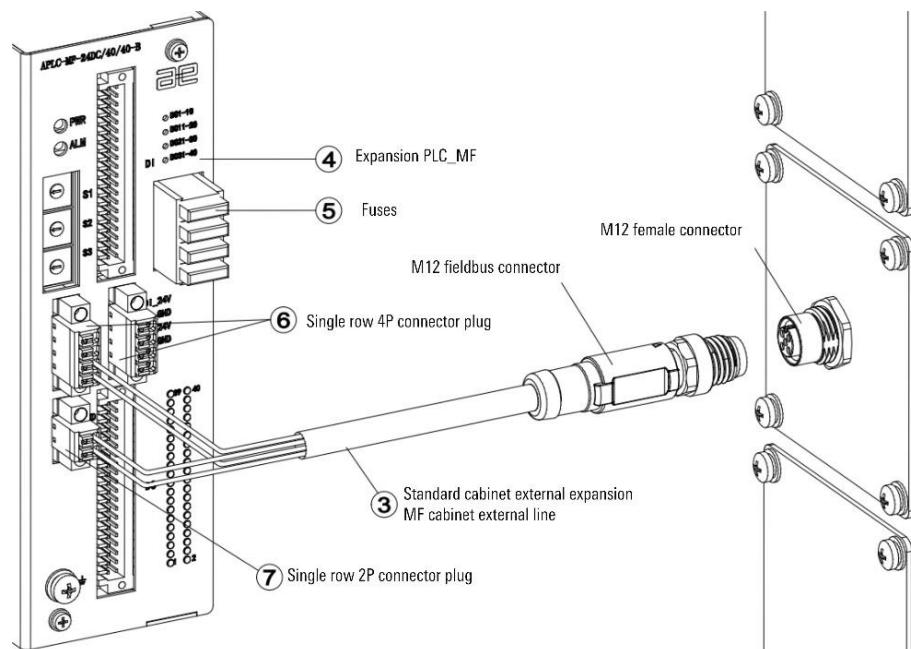

Figure 17-10 Diagram of connecting external expansion PLC\_MF
Step4. One end of the standard cabinet with an M12 connector outside the MF cabinet is connected to the M12 female connector of the cabinet according to the triangular positioning mark, and the other end is connected to the power interface of the expansion PLC\_MF (single row 2P connector plug) and 485 interface (single row 4P connector plug), refer to Figure 17-10.